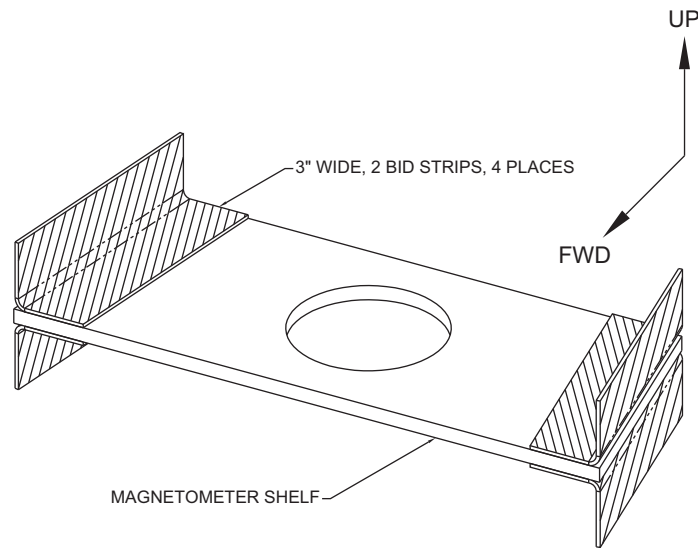

Figure B-23 Magnetometer Shelf With Lay up
- Secure the shelf to the fuselage with one layer of 3.0 in. wide, 2 bid strips at each corner above and below the shelf. The lay up is shown in Figure B-23.